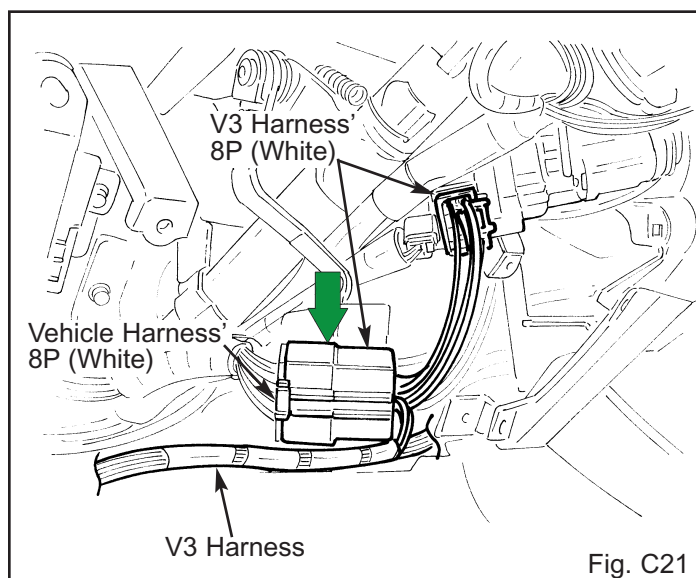

Fig. C21
39. Plug in the V3 harness' white 8P connector between the vehicle harness' white 8P connector and the ignition switch. (Fig. C21)